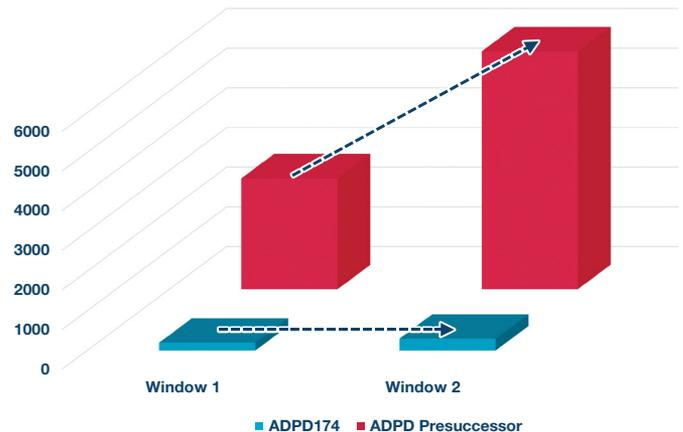

Figure 5. ADPD174 ILP impact vs. its predecessor.
This ILP effect results in a dc offset and will limit the ac component of the signal, also called modulation index (MI). The MI, in fact, is the only signal we are interested in. ILP can be resolved by separation of the window—however, this is very difficult and costly to implement in volume production. The ADPD174 is the solution to this problem. It has a specially designed housing to reduce the ILP behavior without the requirement for separation of the transparent window in the housing. In Figure 5, improvement is shown on the ADPD174 ILP reduction vs. its predecessor as a function of the LED current. This is another benefit over other discrete or integrated devices that are available on the market.